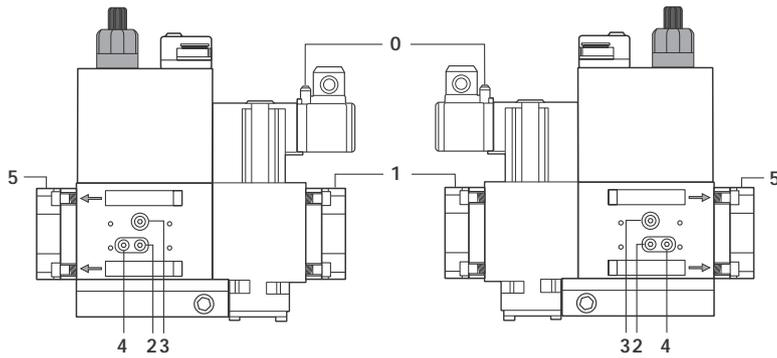
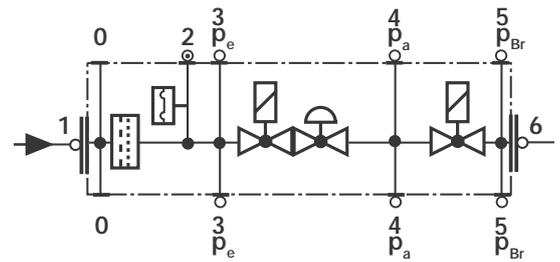

Fig. 51
Fig. 52
- Change the filter if the pressure difference between pressure connection 1 and 2 (Fig. 51-Fig. 52)  $Dp > 10$  mbar.
- Change the filter if the pressure difference between pressure connection 1 and 2 (Fig. 51-Fig. 52) is twice as high compared to the last check.